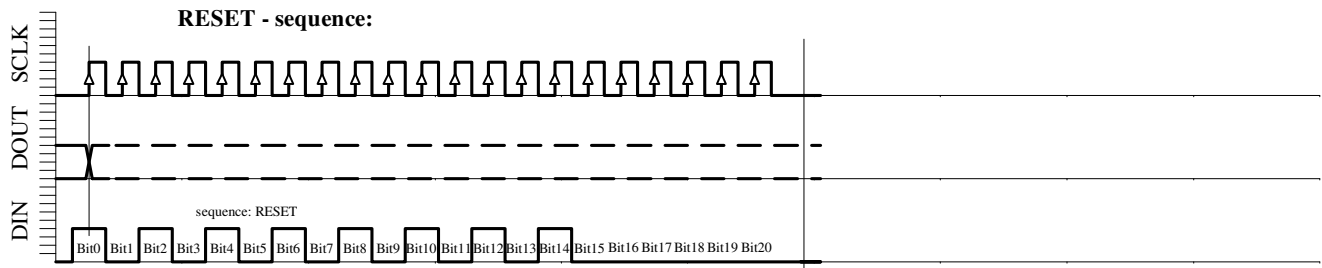

Fig. 6e: RESET sequence (21 bit)
- RESET sequence (Figure 6e)
The RESET-sequence is special as its unique pattern is recognized by the module in any state. By consequence it can be used to restart if synchronization between the microcontroller and the MS5536-60C has been lost. This sequence is 21-Bit long. The DOUT signal might change during that sequence (see Fig. 6e). It is recommended to send the RESET sequence before first conversion sequence to avoid hanging up the protocol permanently in case of electrical interference.